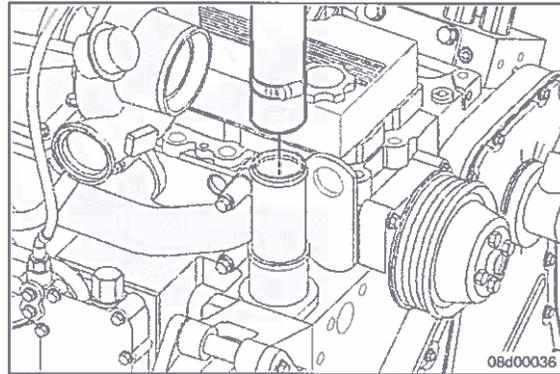

Fig. 5
- 10. Install radiator hose on the water outlet connection. (Fig. 5)